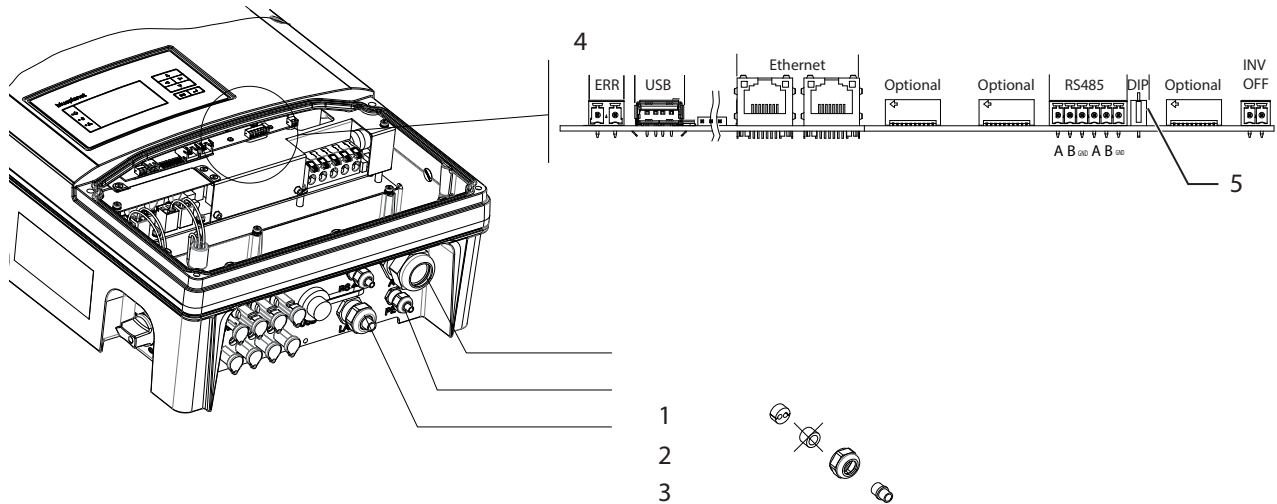

Figure 22: Connection area: Connection and assignment of the interfaces
All interfaces are located on the connection circuit board behind the cover for the connection area. Use the cable fittings and plug connections provided (see Figure 22 on page 24).
1. Loosen and remove the cover of the cable fitting (see Figure 22 on page 24).
1. Unscrew the cable fitting (see Figure 22 on page 24).
- ⌚ Observe the wire pairing when connecting DATA+ and DATA- (see Figure 22 on page 24).
- ☞ Only activate the terminating resistor on the communication circuit board of the terminal unit using the DIP switch. (See Figure 22 on page 24)